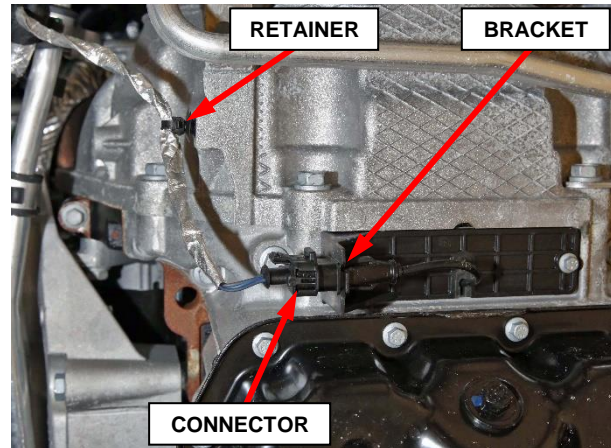

Figure 34 – CKP Harness Connector
42. Disconnect Crankshaft Position (CKP) sensor wire harness connector and release the retainer (Figure 34).
43. Detach the CKP wire harness connector from the bracket (Figure 34).